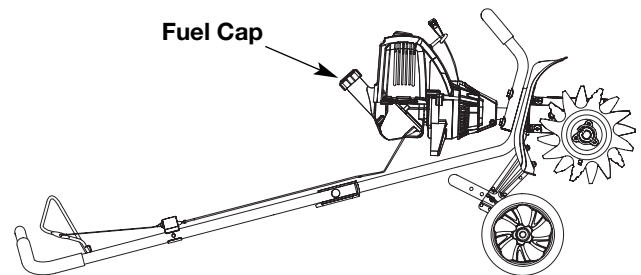

Fig. 9
NOTE: Fill or add fuel to the tank only when the cultivator is in a horizontal position (Fig. 9).
2. Place the unit on a flat, level surface to get a proper oil level reading (Fig. 9).